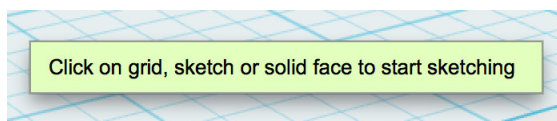

Figure 4-13 Click on blue grid
3. Follow the prompt to click on the big blue grid (Figure 4-13).